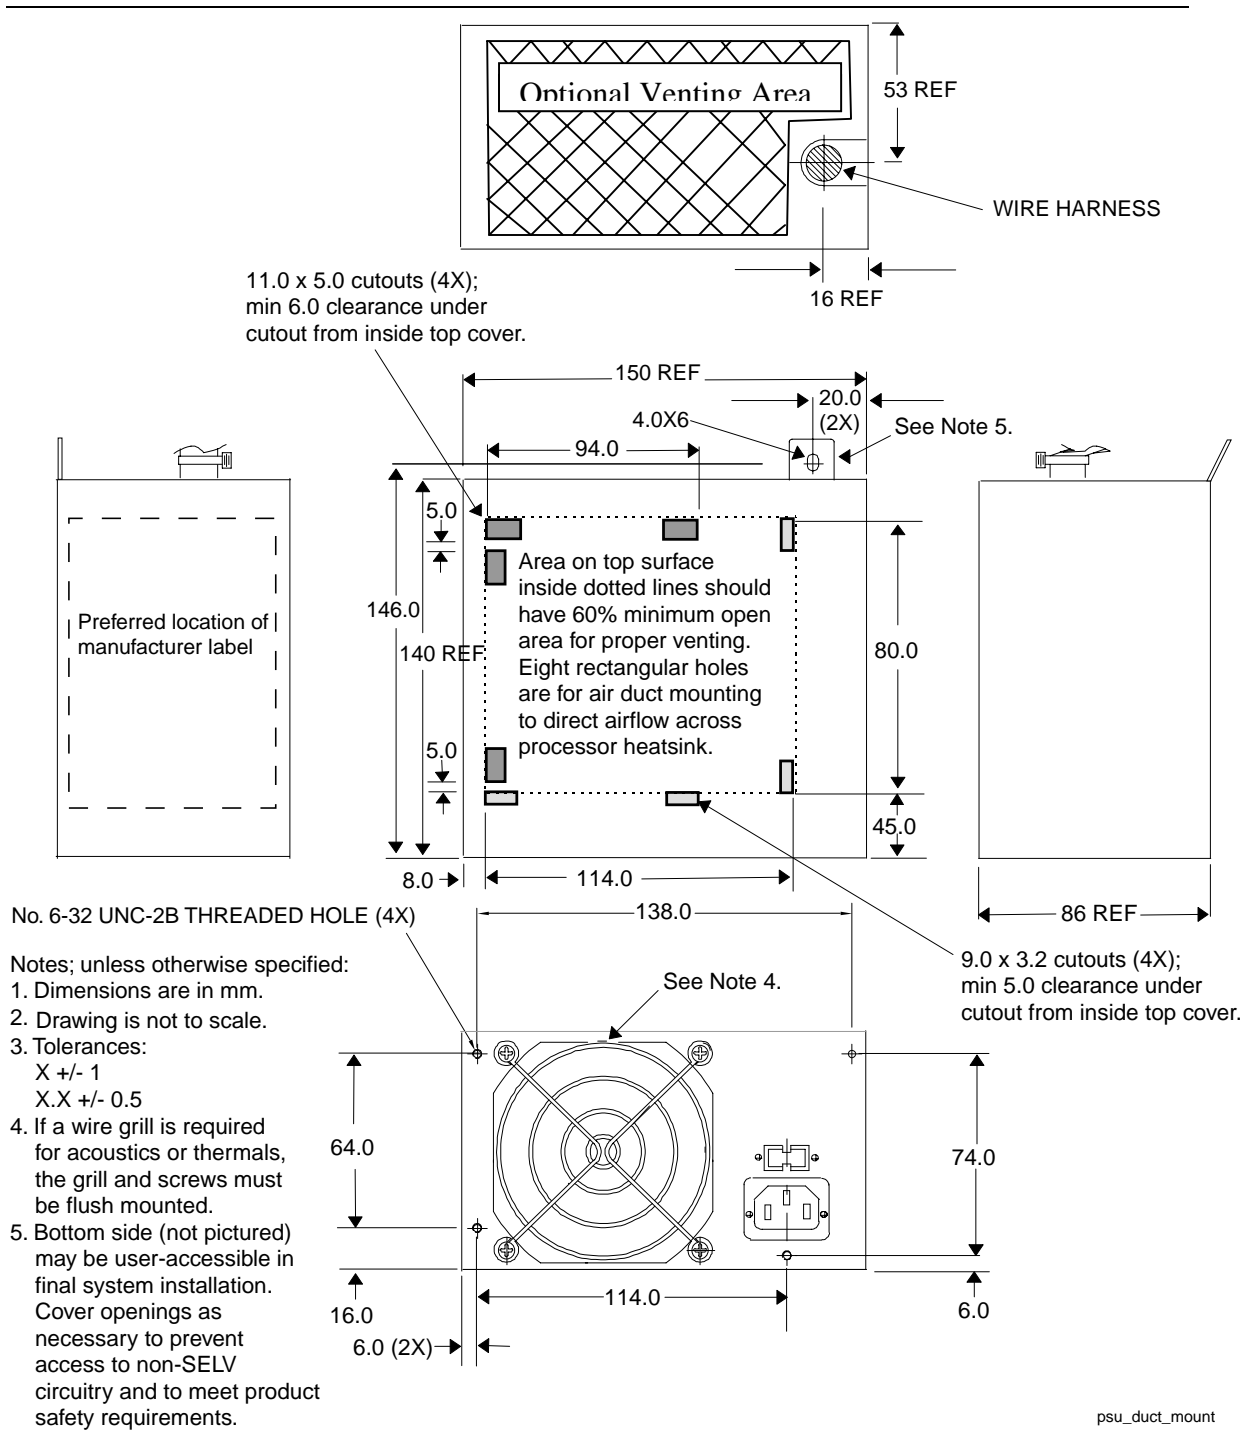

Figure 5. Power Supply Dimensions for Chassis in Which the P/S Cools the Processor
- The venting shown in Figure 5 allows designers to more directly couple the power supply airflow to system components such as the processor or motherboard core, potentially cooling all critical components with a single fan. Both the power supply fan location and direction may vary in this case. The trade-off is usually one of reduced system cost versus narrower design applicability.